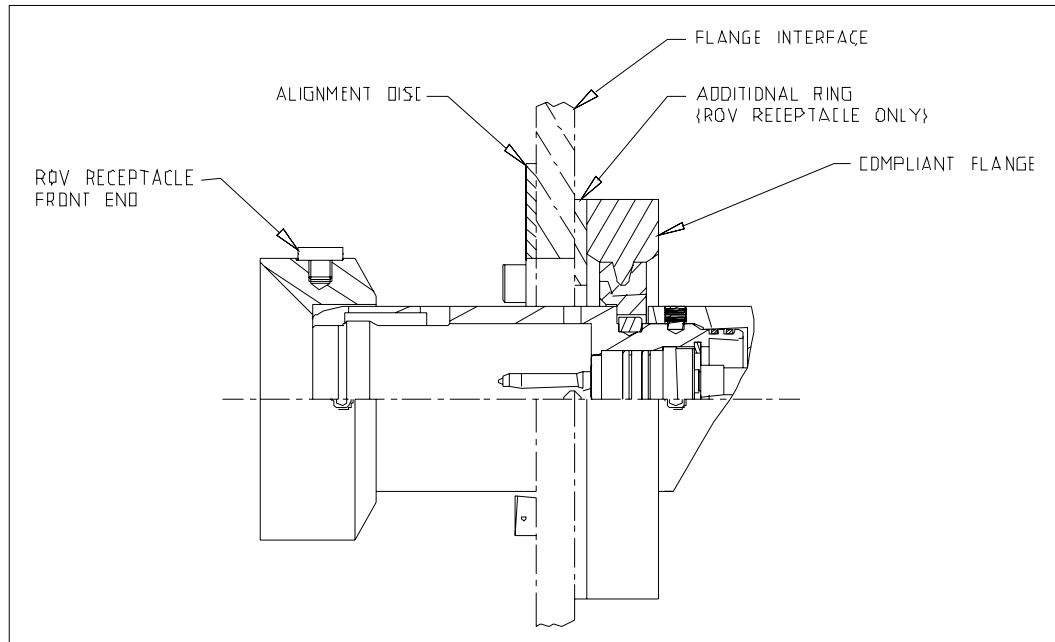

Figure 12
- For ROV receptacles an extra ring is required, to keep the connector captive in the event that the rubber mount is lost. This should be fitted to the connector, along with the alignment disc, in the orientation shown in figures 12 & 13 below.